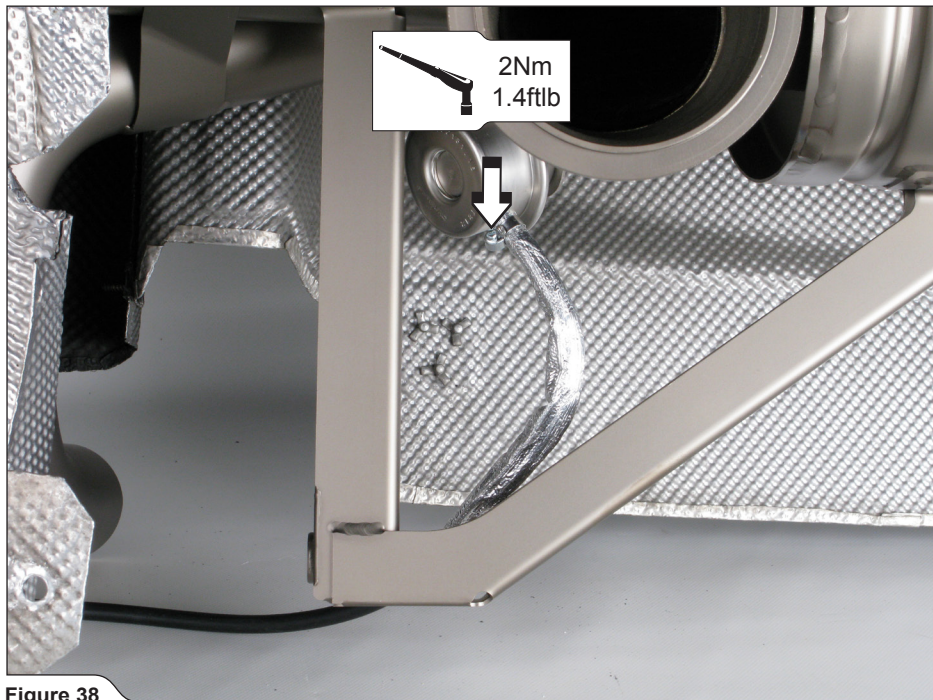

Figure 38
4. Attach the shorter Akrapovič (600mm) rubber vacuum tube onto the right exhaust valve actuator and tighten the tape clamp (**Figure 38**).